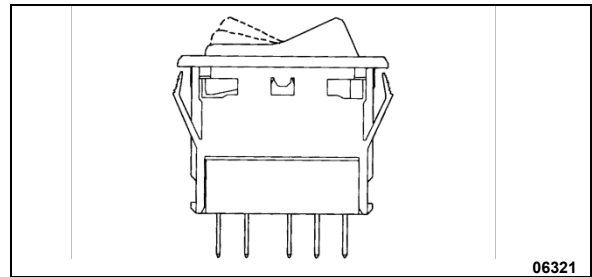

FIGURE 61: SWITCH
3. To install a new switch, reverse the procedure (Figure 61)